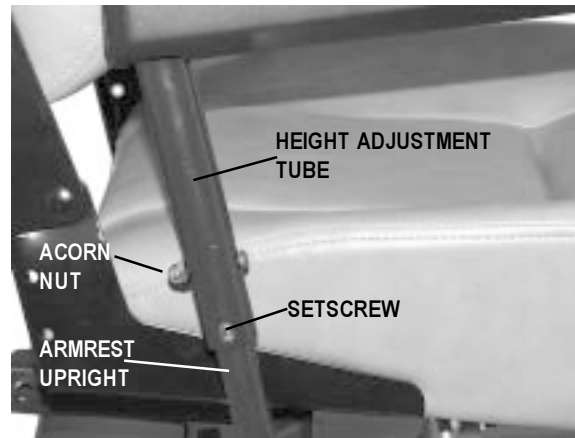

FIGURE 15. ARMREST HEIGHT ADJUSTMENT
1. Loosen the setscrew on the side of the height adjustment tube with the 1/8" hex key. See figure 15.